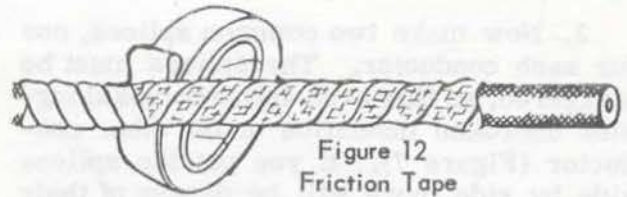

Figure 12
2. **Friction Tape** - Friction tape is used to replace the tough outer braid on the wire. It is made of cloth soaked in a sticky compound. Put it on the same way as the rubber tape, winding diagonally from one end to the other. Two layers are usually enough (Figure 12).